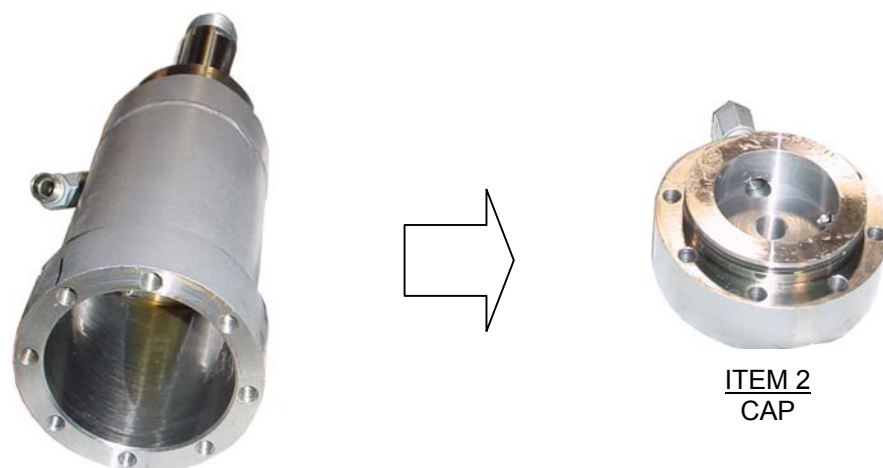

FIGURE 10
After removing the (8) cap retaining screws, carefully remove the cap (Item 2). See Figure 10.